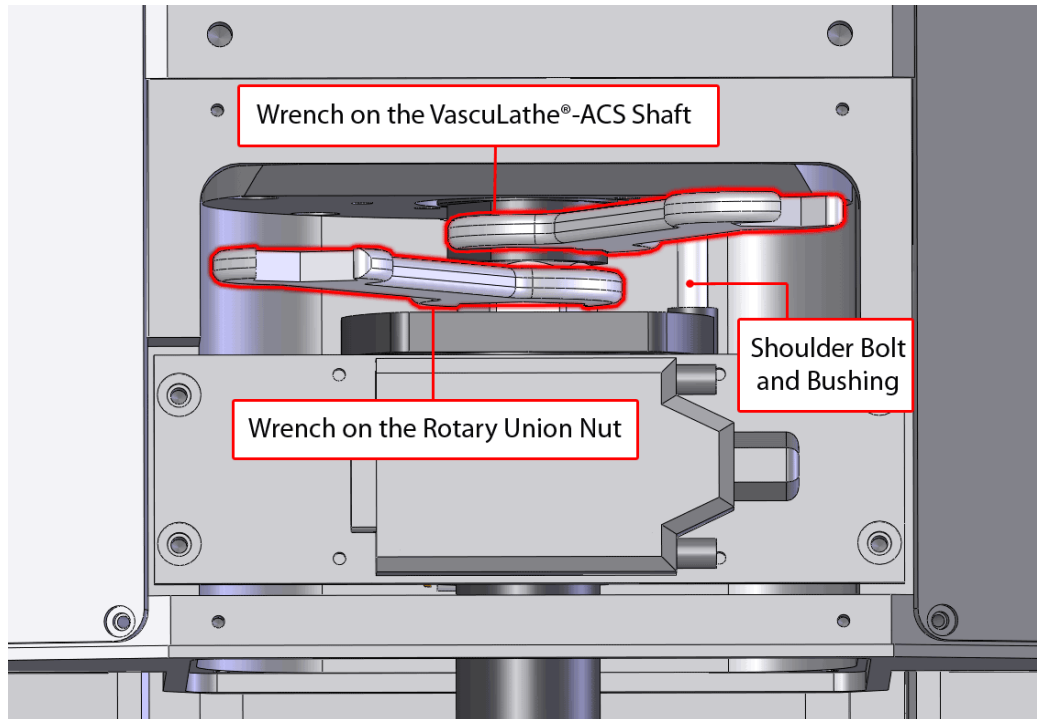

Figure 4-14: Wet Cut Rotary Union Installation
Step 3: Remove the shoulder bolt and bushing (see Figure 4-14).
Step 4: Using a 25 mm wrench on the rotary union nut and a 27 mm wrench on the VascuLathe[®]-ACS shaft coming in from the top of the carriage, unscrew the rotary union from the VascuLathe[®]-ACS shaft (see Figure 4-14).